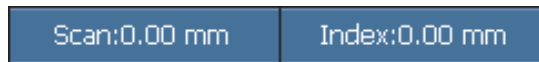

Figure 6-17 Scan and Index reading fields
- c) Move the probe and encoder assembly in the scanning direction, and look at the indicator in the title bar to see if the number in the **Scan** or **Index** reading field is positive or negative (see Figure 6-17 on page 179).